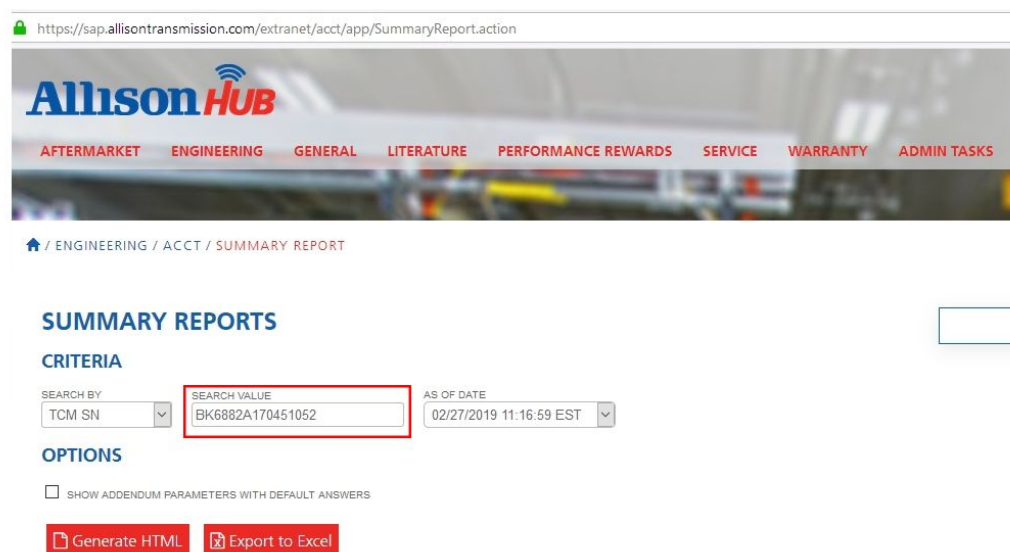

Figure 2. Summary Report Generation
- b. Enter the TCM serial number in the Search Value field, wait for As of Date field to populate, and click Generate HTML. Refer to Figure 2.